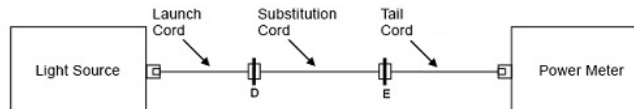

Figure 10. Check for low loss connections
- a. Add a tail cord to the power meter and a substitution cord between the launch and tail cords and check for low loss connections such as 0.4 dB for single-mode (see Figure 10).